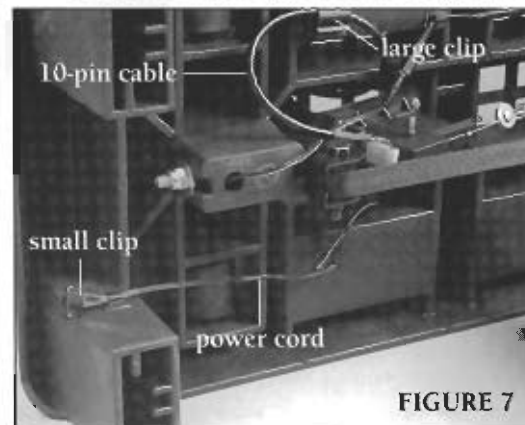

FIGURE 7
1. Use the two small plastic clips to secure the power cord to the underside of the skier. Place one clip near the motor and the other on the inside right leg of the skier (Figure 7).